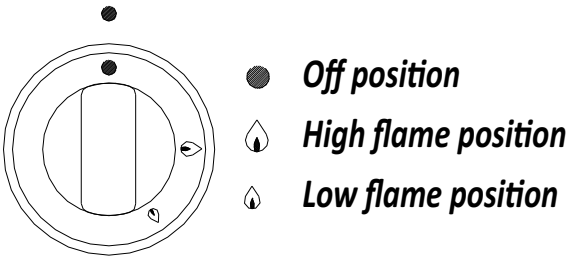

Figure 8. Control knob
- If necessary regulate the power to minimum (low flame). See Fig. 8.